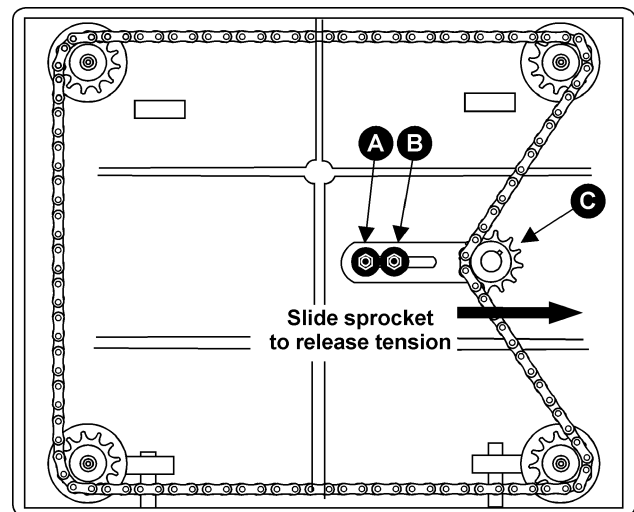

Fig. 21
2. Remove bolts holding the planer to the stand. Tilt planer on its side to expose underside of base (Fig. 21).
3. Remove bolt (A, Fig. 21) and loosen bolt (B-Fig. 21) which will allow you to move the idler sprocket assembly (C, Fig. 21) far enough to release tension on the chain.
6. When adjustments are correct, replace chain around corner sprocket, slide idler sprocket (C-Fig. 21) back to re-tension chain, tighten bolt (B, Fig. 21) and insert and tighten bolt (A, Fig. 21).